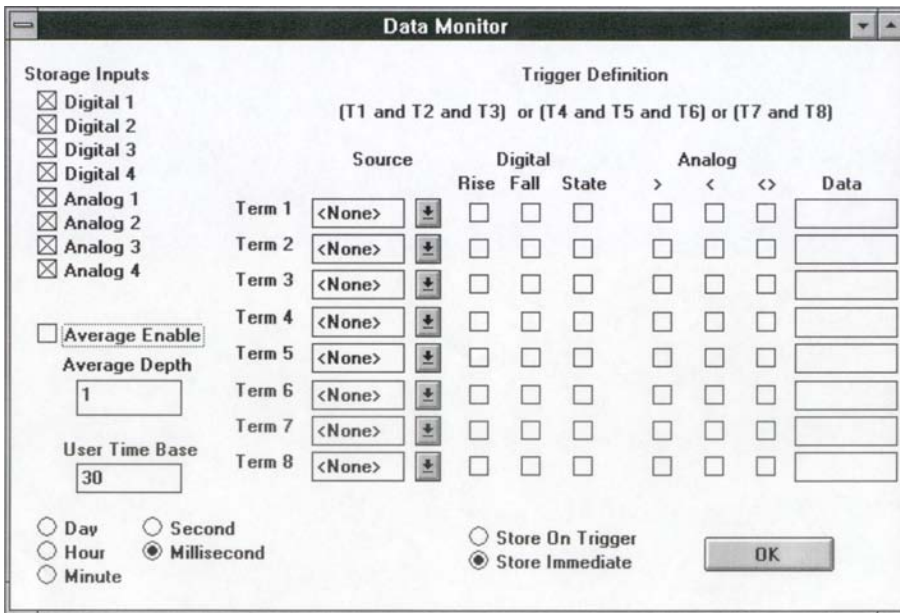

Figure B-3: Test setup screen
- ✚ Select the Configure -> Setup pull-down menu pick, and configure the data monitor to record all of the digital and analog inputs. You can leave all the other options at their default. The data monitor will default to store immediate with 30 milliseconds between samples. The Setup screen should look like the screen shown in Figure B-3.